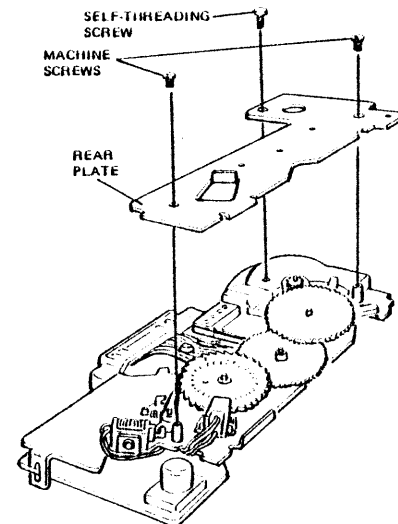

FIGURE 4-12
9. Replace rear plate (see Figure 4-12). Line up the four shafts through the holes in the plate. The two shoulders supporting the rear plate will show through. Return self-threading screw and the two machine screws to their original locations.